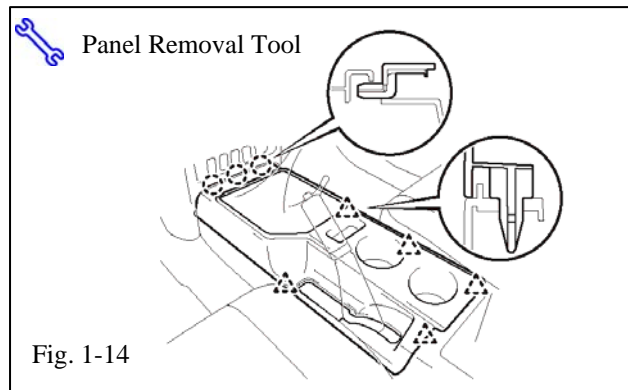

Fig. 1-14
- (13) Disengage and remove the top panel of center console. (Fig. 1-14)
- (14) Reattach shift lever knob(s).